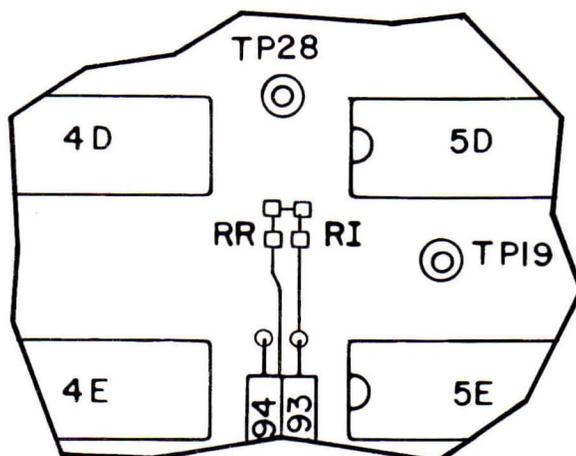

FIGURE 3-13. RADIAL TRACES
1. Cut away the trace at RI located near 5D and 4D. See Figure 3-13.
1. Cut away trace RR located near 4D and 5D. See Figure 3-13.